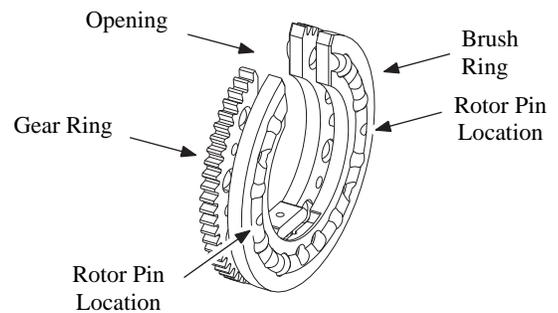

Figure 32 Placing the Rotor on the Work Surface
2. Place the rotor on a clean, dry surface with the rotor opening facing up. Separate the gear ring from the brush ring enough to clear the two rotor pins. See Figure 32.